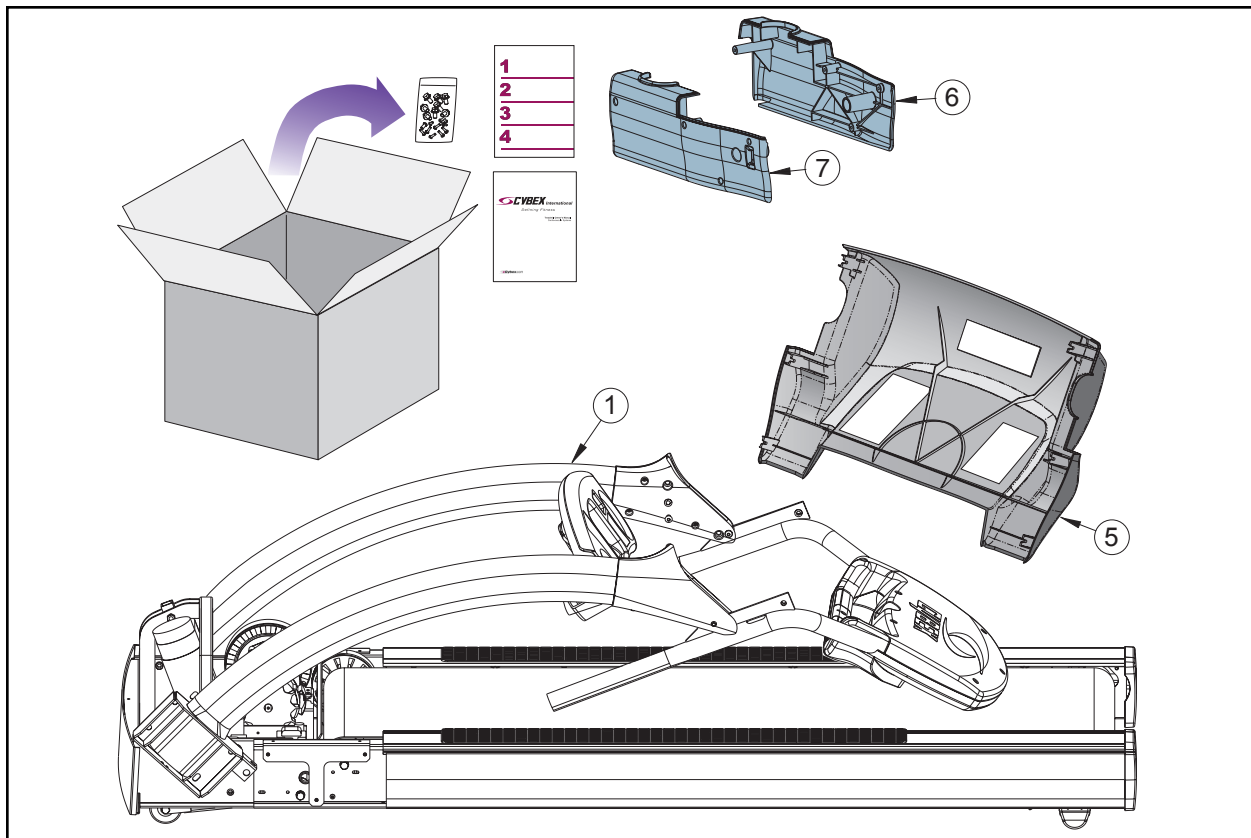

Figure 1
- B.** Check to be sure that the following items are present. Check off (☒) each item as you find it. See Figure 1. If any of the parts are missing contact Cybex Customer Service.